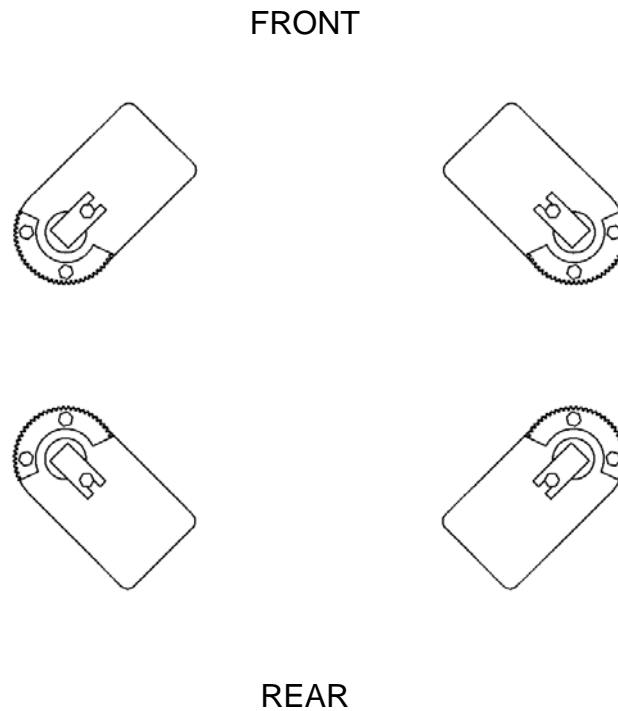

Figure 16 – Arm Installation
- Using two (2) 5/16"-18UNC x 1 1/4" LG. hex head bolts and two (2) 5/16" flatwashers, attach each arm restraint gear as shown in **Figure 16**.